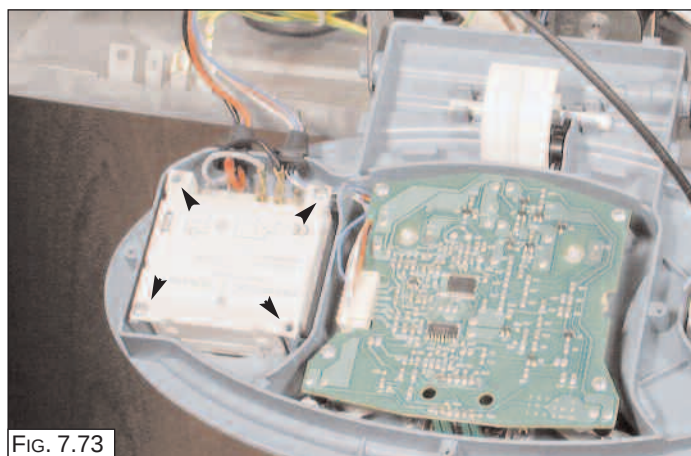

FIG. 7.73
2. Unplug the electrical connection from the time clock and unscrew the four screws (FIG. 7.73);